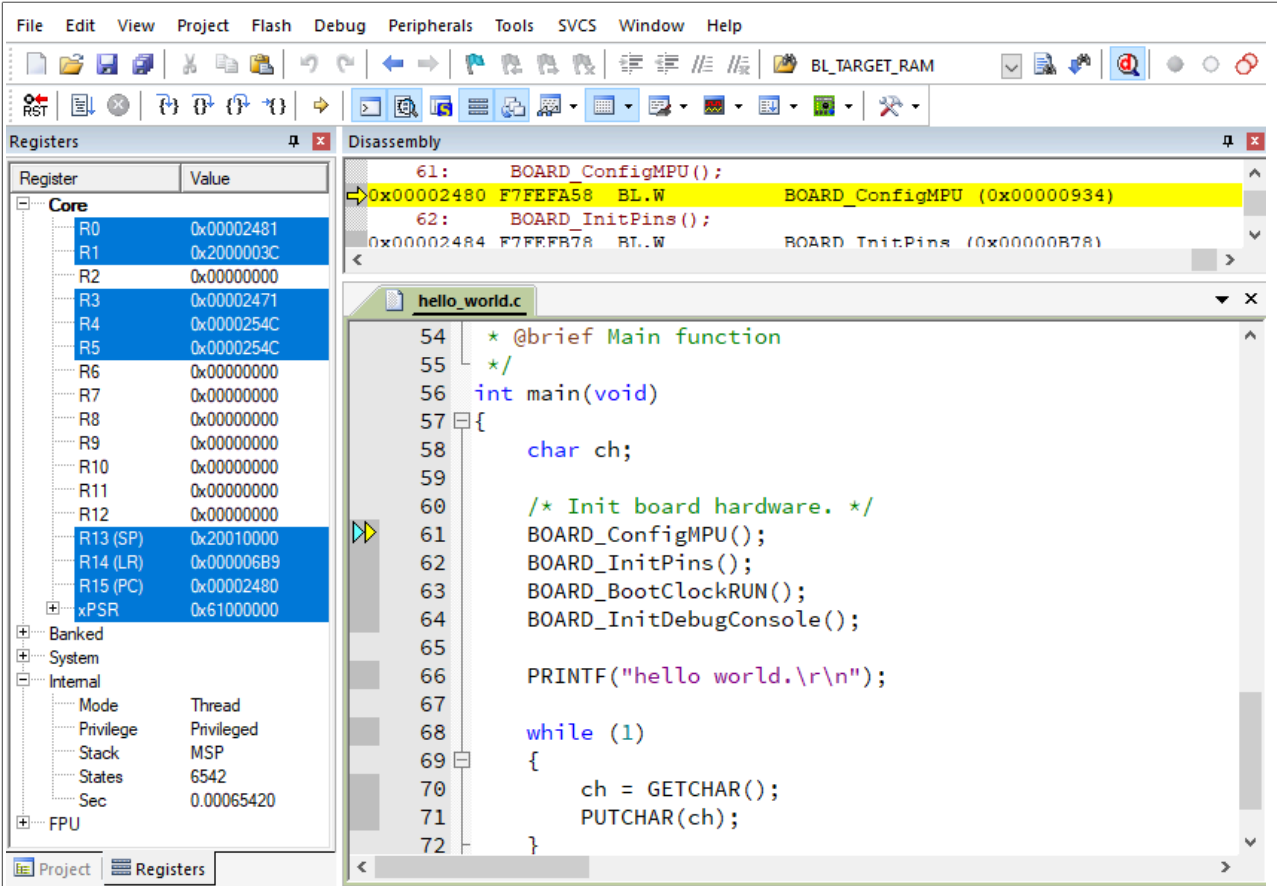

Figure 12. Stop at main() when run debugging
- To debug the application, click **load** (or press the F8 key). Then, click the **Start/Stop Debug Session** button, highlighted in red in Figure 12. If using **J-Link** as the debugger, click **Project option > Debug > Settings > Debug > Port**, and select **SW**.